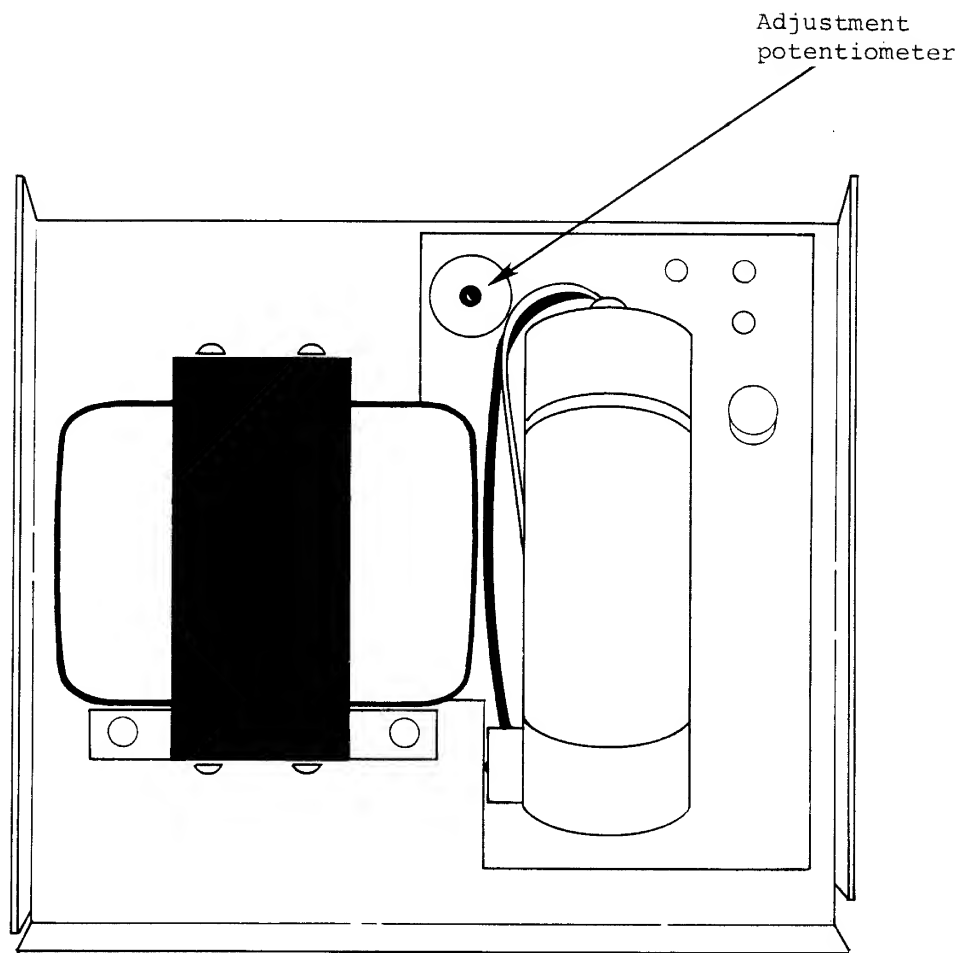

Figure 3. Power Supply Adjustment
2. Adjust the power supply potentiometer for $+5.0 \pm .1$ VDC, Figure 3.